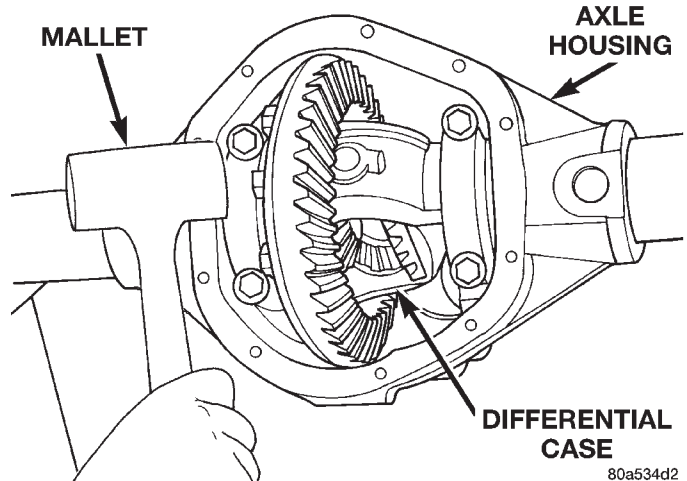
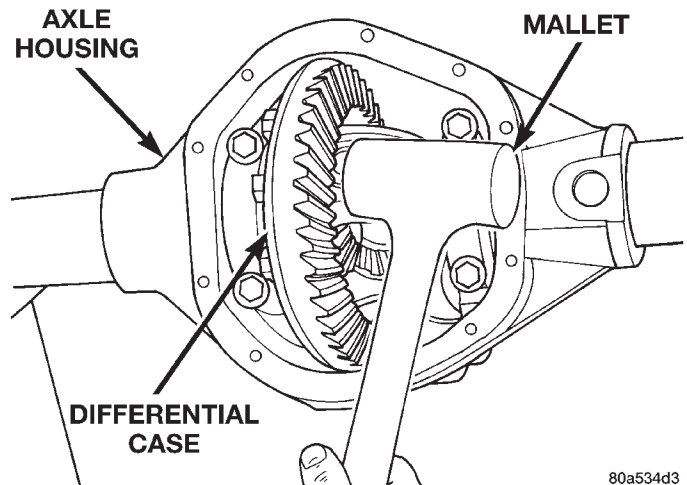

Fig. 66 Seat Pinion Gear Side Differential Dummy Bearing
Fig. 67 Seat Ring Gear Side Differential Dummy Bearing
- (7) Using a dead-blow type mallet, seat the differential dummy bearings to each side of the axle housing (Fig. 66) and (Fig. 67).
(19) Install differential case and dummy bearings D-345 in axle housing (without shims), install bearing caps and tighten bolts snug.
(20) Seat ring gear side dummy bearing (Fig. 67).